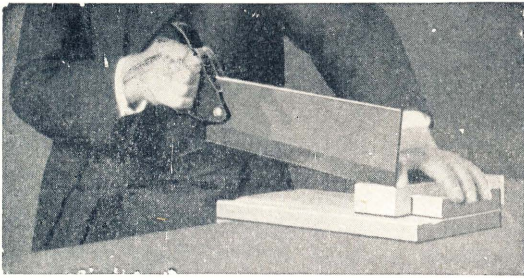

Fig. 17. Sawing cross grain. Back saw and bench hook.*
- f. Test from working face and edge—mark "number four" (Fig. 17)